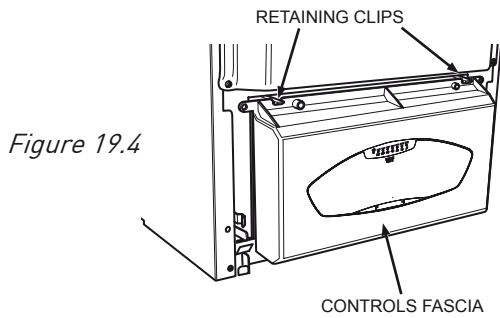

Figure 19.4
- Remove the interface cover by lifting the two latches. (Figure 19.4- 19.5)